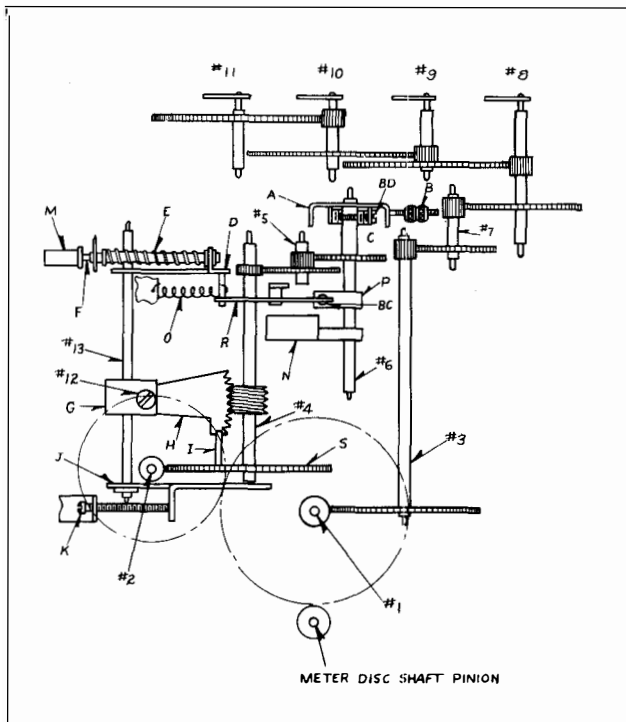

Fig. 5—Schematic Diagram of Register Mechanism.
The meter measures demand by the block interval principle. Details of the register operation may be understood from Fig. 5. The disc shaft drives the watthour register through shaft assemblies 1,3, 7 and 8. At the same time the pen shaft (6) is driven through shaft assemblies 1,2,4,5. At the end of the time interval the tripping rod "F" pushed by the trip arm on the clock mechanism disengages the worm wheel on shaft 4 from the worm on shaft 2.